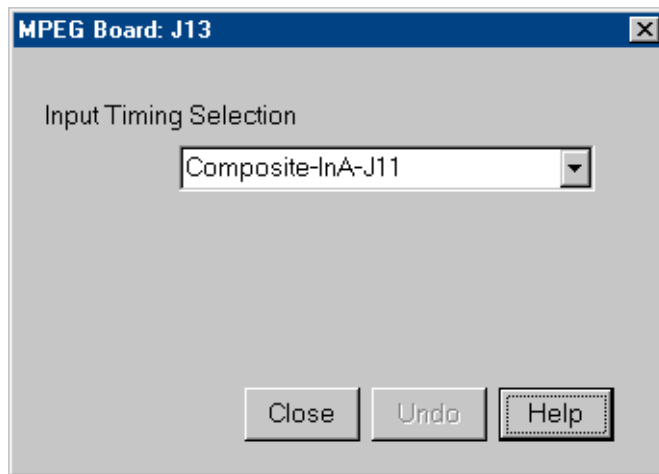

Figure 11. MPEG Input Timing dialog box
1. Click or double-click **MPEG Board** from the configuration tree and the Input Timing Selection dialog box appears (see Figure 11).